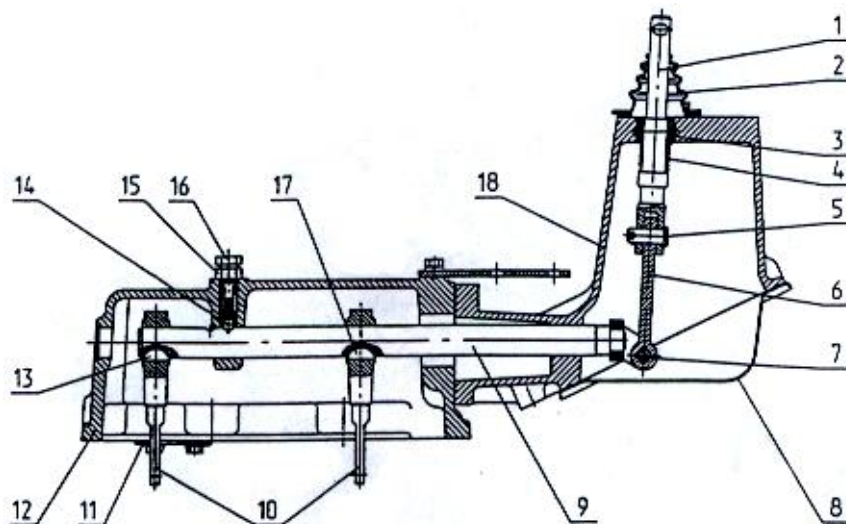

Fig. E-15.4. Speed-range change-over mechanism:
The **speed range change-over mechanism** (Fig. E-15.4) is installed in the transmission gearbox casing (1) and cover of the gear-shift mechanism (14) (see Fig. E-15.1).